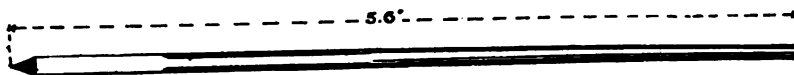

FIG. 6.—LINING BAR. Weight 30 lbs.
**Lining Bars.** (Fig. 6). Lower end is made of 2 ft. 6 in. of 1 1-2 in. square iron to which is welded 18 in. of 1 3-8 in. round, and to this is added 18 in. of 1 1-8 in. round all nicely tapered together. For the point weld in a piece of steel, when finished to be 5 ft. 6 in. long and to weigh about 30 lbs. Make about eight in one day. The point should be "diamond point" or sharp. A bar with a straight "chisel" or flat point is of little or no use.